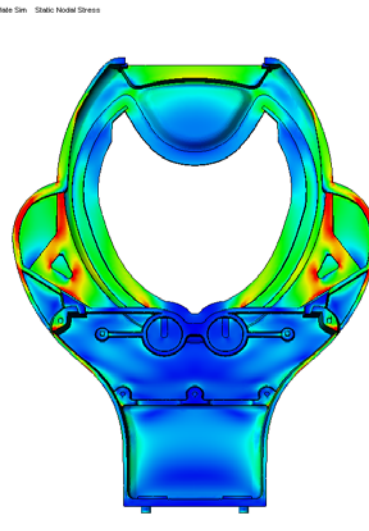

Figure 2:
- *Figure 2* – Original design with constraints that represented actual